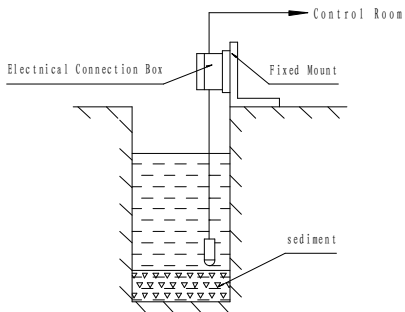
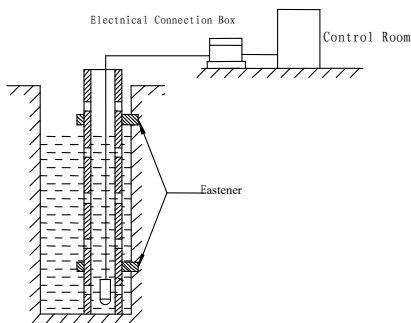

Fig. 2
Fig. 3
- a) The installation method in the pool to see Figure 2. To protect the transmitter, it should be mounted far away from the pumping in/out source to prevent the pumping impact; the transmitter also could be mounted as Figure 3, protected by steel pipe.
- b) The installation method in the deep well to see Figure 3. Steel pipe inserting method could be used. The steel pipe could not be bent, the internal diameter $> 30\text{mm}$. Several little holes could be made at